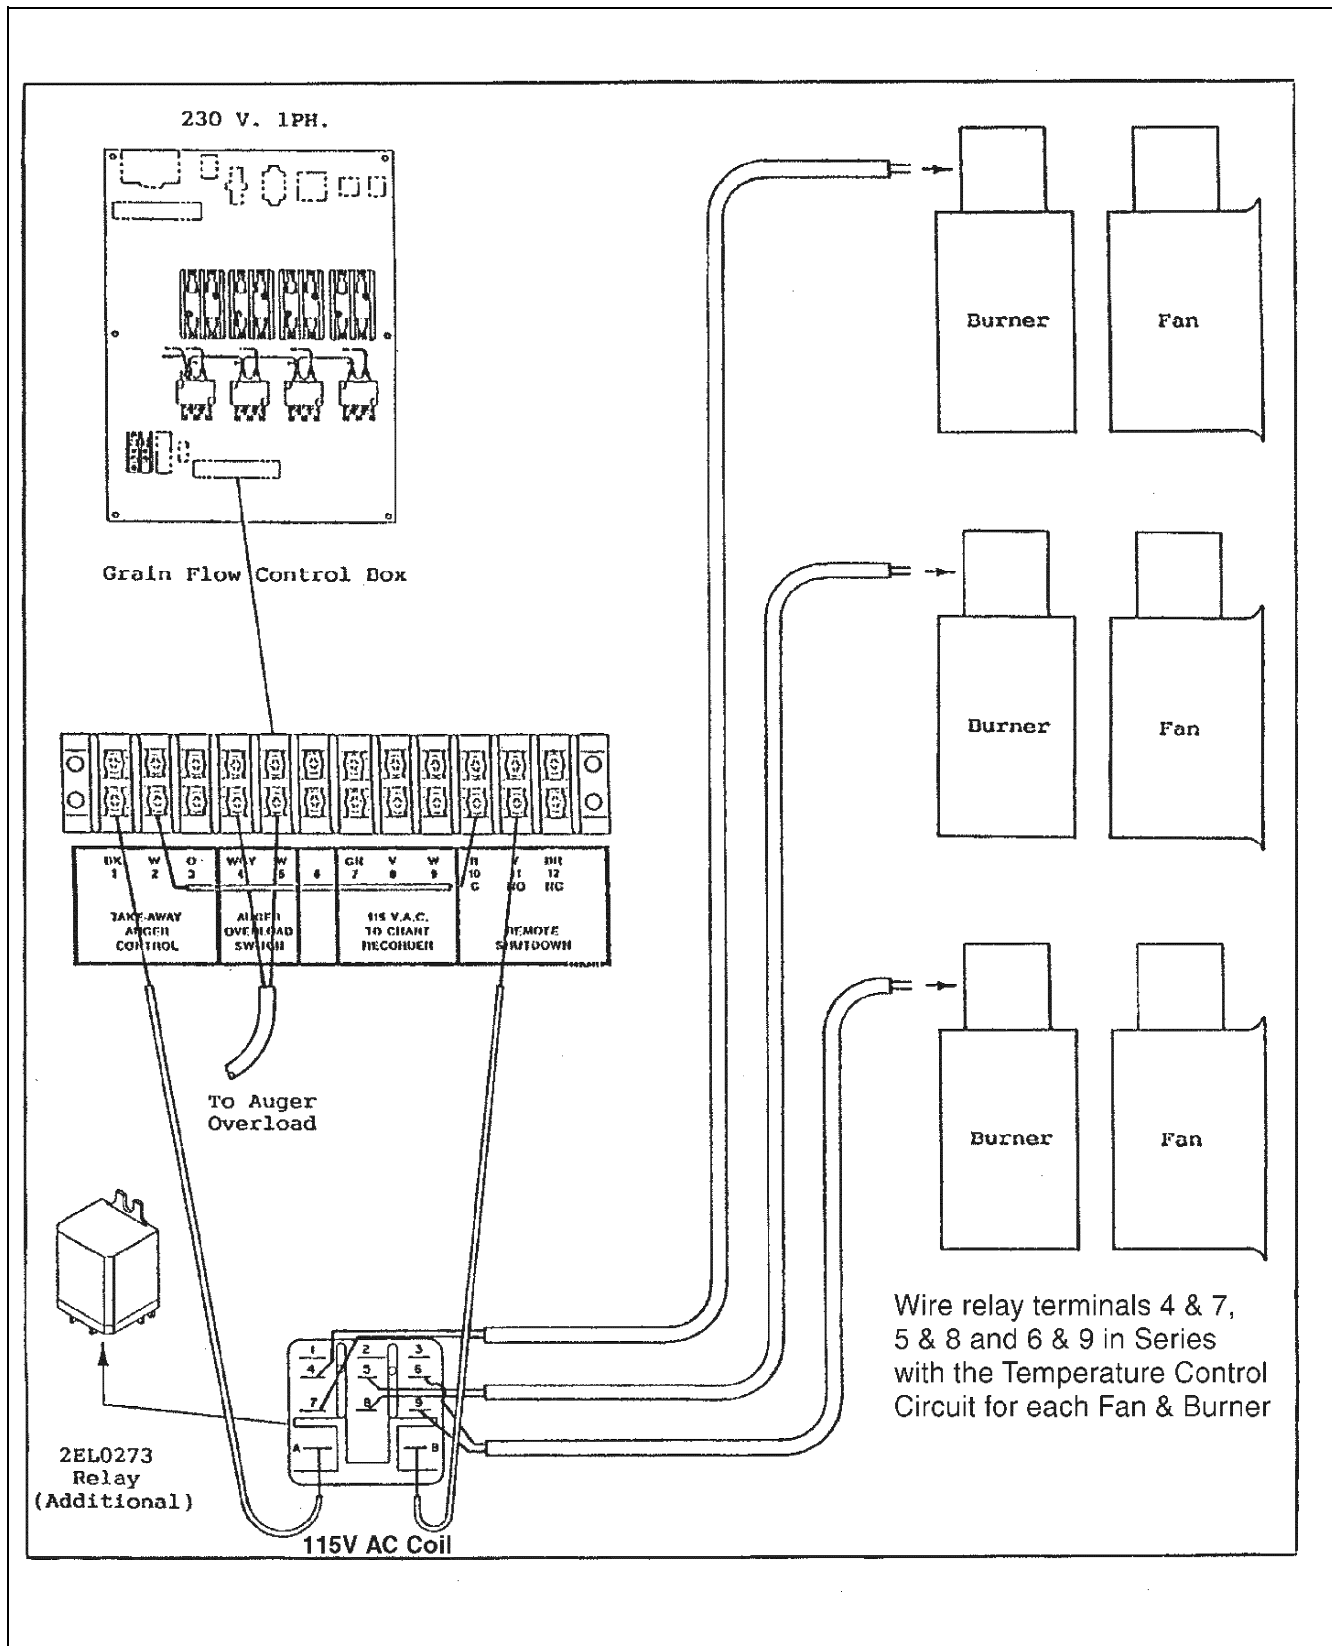

Figure 11B
4. Connect relay terminals #4 and #7, #5 and #8, and #6 and #9 in series with each of the fan and burner control circuits. *(See Figure 11B on Page 101.)*